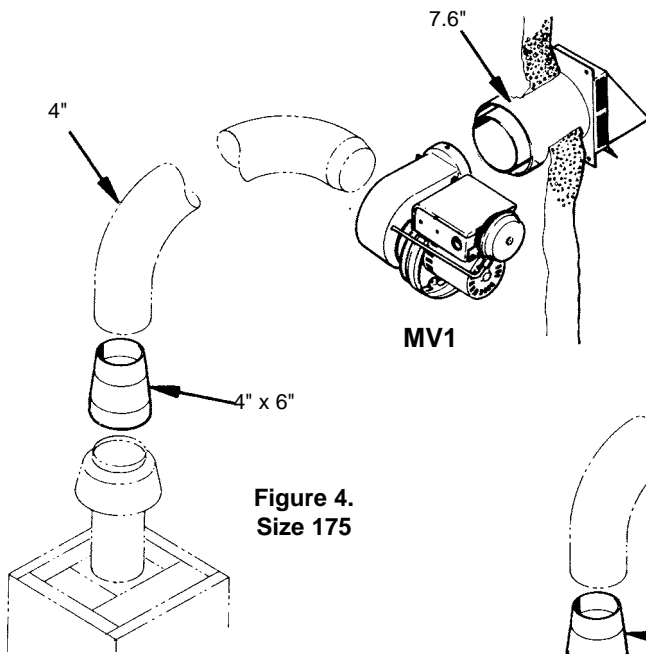

Figure 4.
8. Inlet and outlet piping must conform to Figure 4, 5 or 6.